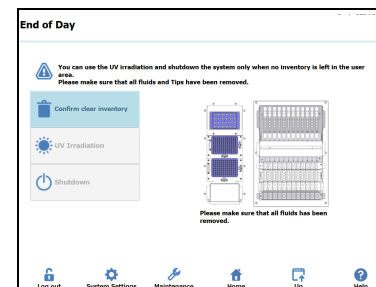

Figure 17: End of Day screen
26. On the Home screen, select “End of Day”. The following screen is shown (Figure 17).